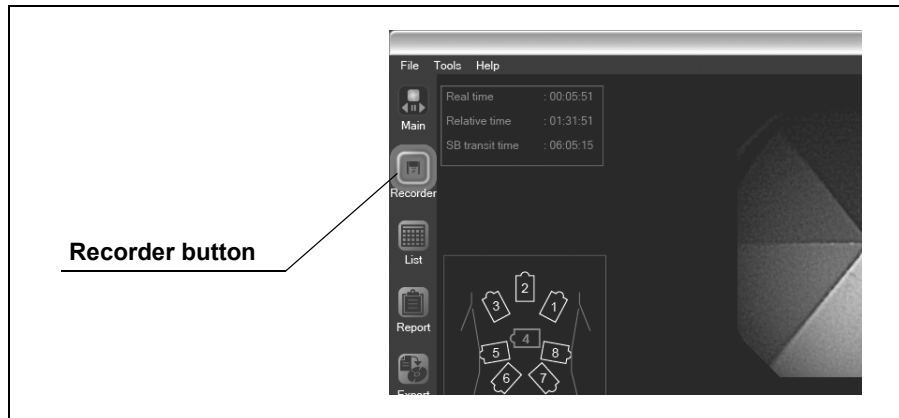

Figure 5.7
2. Click the [Recorder] button on the main screen (see Figure 5.7). The recorder management screen is displayed, and the information recorded on the recorder unit is shown.